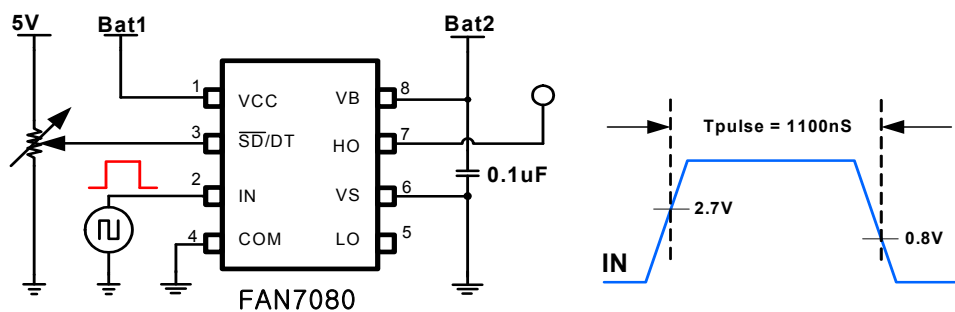

Figure 1a. Short Pulse Width Test Circuit and Pulse Width Waveform
4) When VDT= 1.2V. Refer to Figure 1a, 1b, 1c and 1d on page 6.